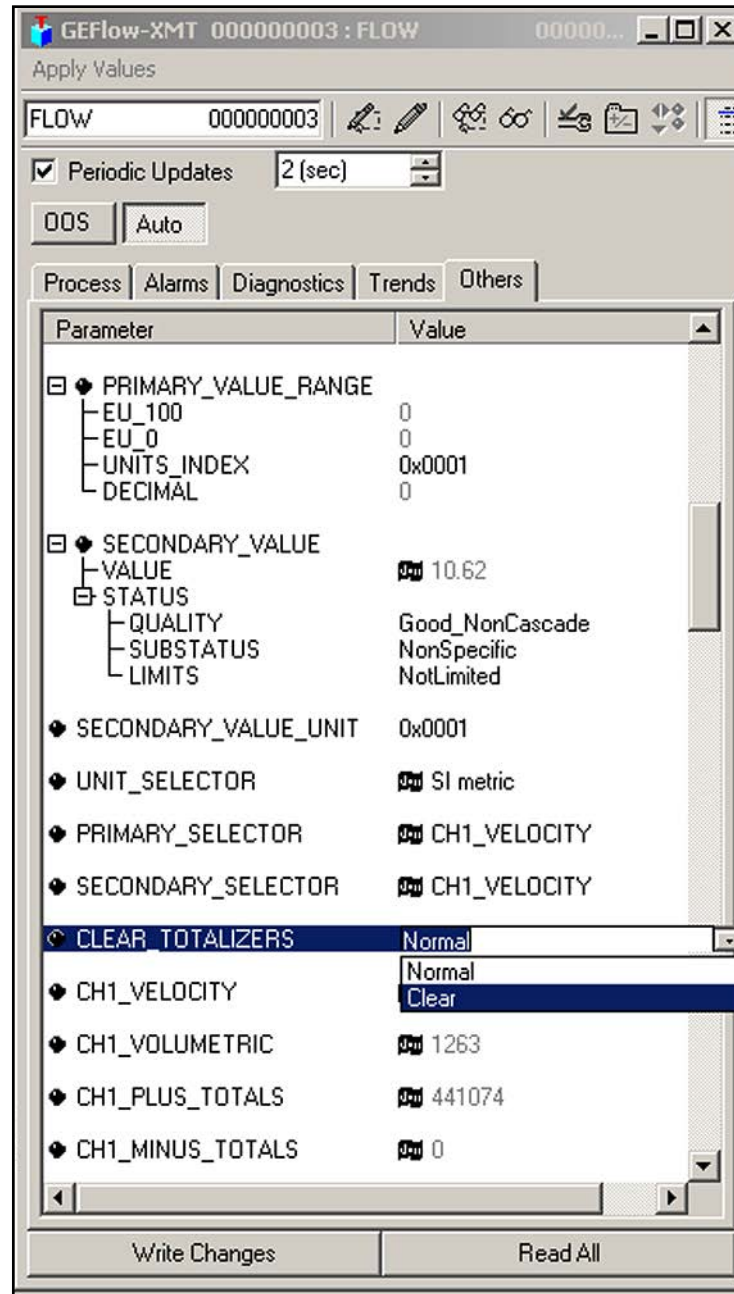

Figure 51: Clear Totalizers Drop Down List
3. Select **Clear** from the drop down list box (see *Figure 51*).